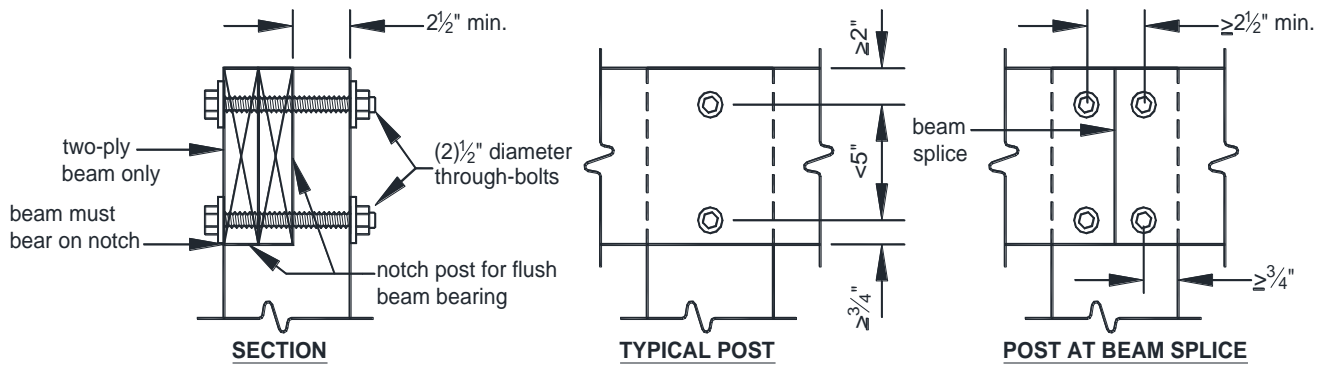
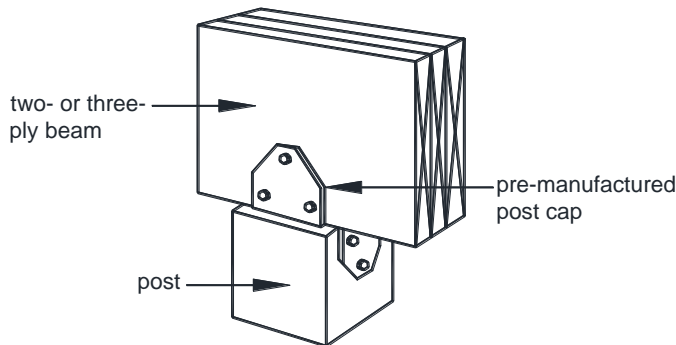

FIGURE 18: NOTCHED 6x6 POST-TO-BEAM CONNECTION; 4x4 MUST NOT BE NOTCHED
FIGURE 19: POST CAP CONNECTION
- Beams shall be attached to 6x6 posts using one of the methods shown in FIGURE 18 or 19. Beams shall be attached to 4x4 posts using the method shown in FIGURE 19.